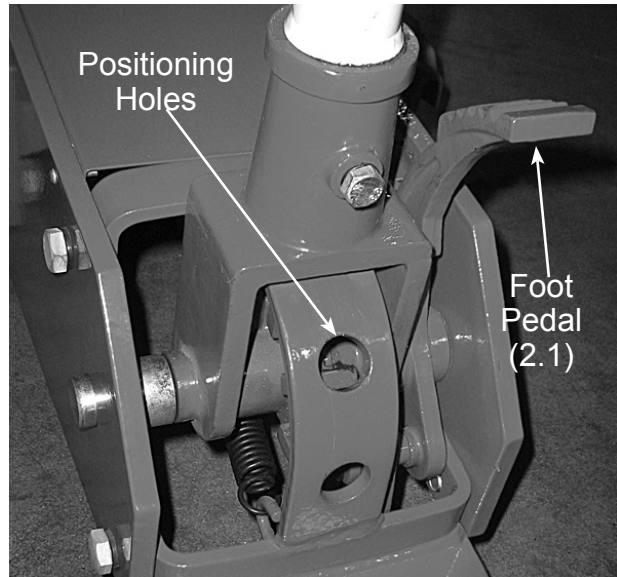

Fig 3
- c. **Position C:** Allows the Deflector Rod to drop into one of three holes (See Fig. 3.) locking the Handle (1.5) in one of three angles, vertical, horizontal and 45°.